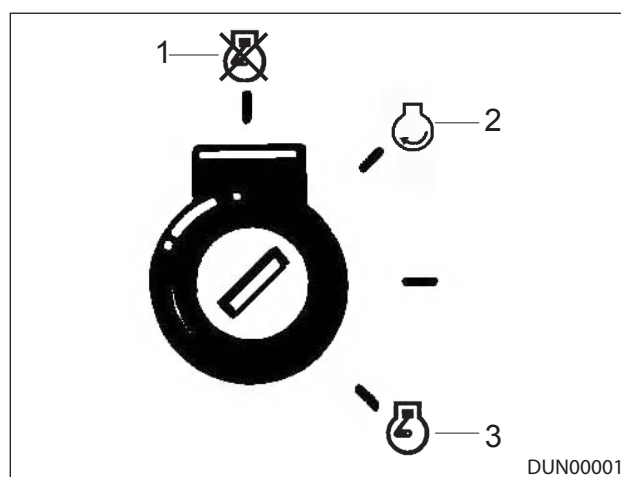

Figure 7.2 - Ignition Key Positions
2. Turn the ignition key on the control panel to the "ON" position, Ref: Figure 7.2 (item 2).
3. Turn the ignition key to the crank position, Ref: Figure 7.2 (Item 3).
2. Turn the ignition key to the "ON" position, Figure 7.2 (item 2).